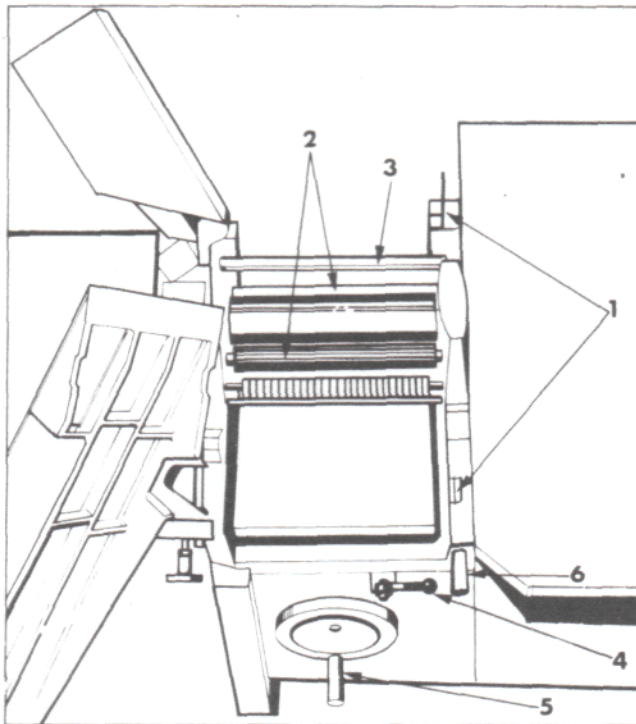

Fig.18.
To prepare for thicknessing both surface tables must be released by the spring retainers (1) and lifted to the vertical position as Fig.18 below